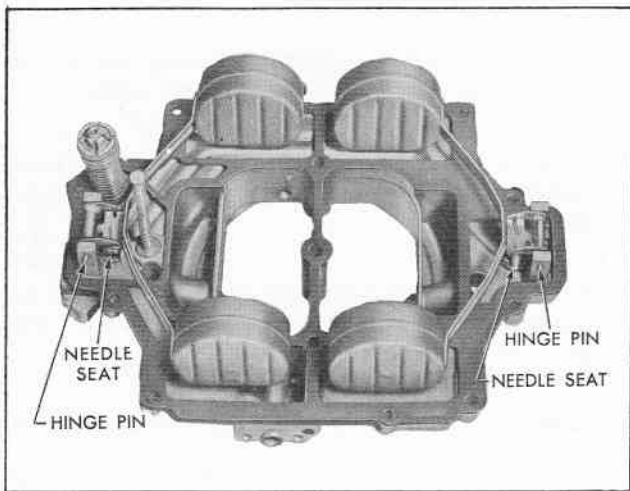

Fig. 10 Removing Air Horn Assembly
11. Carefully remove air horn by lifting straight up until all parts are clear of carburetor body (Fig. 10).